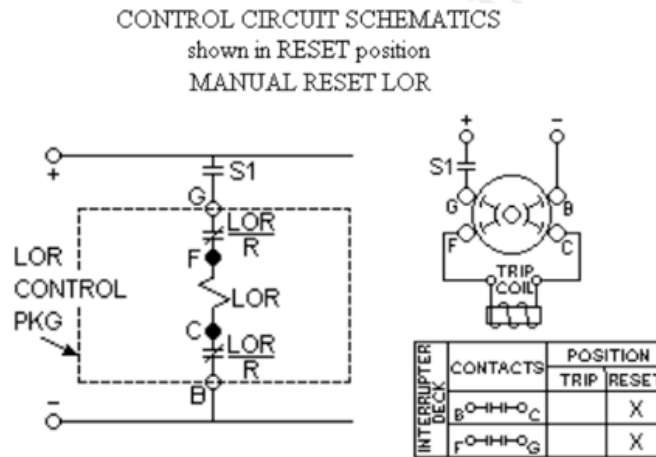

Fig. 28 Design guide for an LOR (Manual Reset)
The LOR/SR, as shown in Fig. 28 and 29, is in the RESET position. The LOR/T coil is the same linear solenoid that is used in all LOR's, and controls the trigger that locks the LOR/SR in the RESET position. The LOR/R is the same rotary solenoid used in the LOR/ER and is used to electrically reset the LOR/SR. K1 and K2 are two relays with NO contacts used in the control circuit. R1 and R2 make up a bridge circuit on both the INSTANTANEOUS RESET and the TIME DELAY RESET units. In addition the TIME DELAY RESET version has an additional 1E-1F normally open (NO) contact to isolate the K2 coil plus the time delay circuit consisting of R1 and C1-C2-C3-C4 which are wired in parallel. D1 protects the capacitors from a possible incorrect polarity hookup.
1. The INSTANTANEOUS RESET version of the LOR/SR will reset itself within 80 milli-seconds after the fault has cleared itself (S1 opens). This circuit is illustrated in Fig.28. The LOR/SR trips in the same manner as the manual-reset LOR. With S1 closed (simulating the commanded or fault condition) B-A contact closes and E-F contact closes. In this manner E-F and A-B are both connected to the (+) bus so the K1 coil sees no voltage difference and cannot operate. Therefore, the LOR/SR will not reset and may remain in the TRIP position indefinitely while the R1R2 bridge draws only enough milliamps to maintain the voltage balance of the bridge -- and well below the dropout current of any 0.2A target relays that may be part of the circuit. When S1 opens (indicating the fault or predetermined condition has cleared), the R1R2 bridge becomes unbalanced since the E-F contact, although closed, is in the S1 contact circuit. K1 operates, closing contact K1 and K2 operates, closing contact K2 and the rotary solenoid LOR/R operates and indexes to the RESET position completing the cycle. Contact E-F, and A-B then open dropping out relays K1 and K2 (and their contacts). Contact F-G closes setting up LOR/SR for the next command.